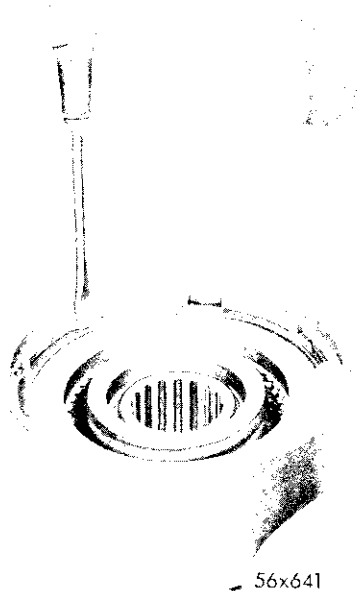
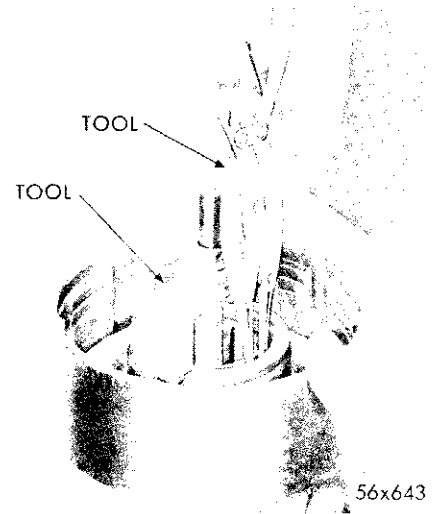

Fig. 70—Removal and Installation of Rear Clutch Piston Retainer Snap Ring
Fig. 71—Removal and Installation of Rear Clutch Spring Retainer Snap Ring
(1) Using a screwdriver, remove the snap ring (large) from rear clutch piston retainer assembly (Fig. 70).
(2) Remove the rear clutch pressure plate (L) from retainer assembly.
(3) Invert the clutch piston retainer assembly and remove the clutch plates (H) and driving discs (M) from assembly.
(4) Using the compressor, Tool C-3575, slightly compress the rear clutch piston return spring retainer, as shown in Figure 71. Use **extreme care not to damage piston return spring retainer by compressing the spring too far.**
(5) Remove piston return spring retainer snap ring with parallel jawed snap ring pliers, Tool C-3301.
(1) Lubricate and install inner piston seal ring (T) on hub of clutch retainer. **Make sure that the lip of the seal is facing down and the seal is properly seated in groove.**
(2) Lubricate and install the outer seal ring (S) on clutch piston (lip of seal toward piston head).
(3) Place the piston assembly (R) in the clutch retainer (U) and with a twisting motion, seat the piston in bottom of the retainer.
(4) Install the piston return spring on hub and position spring retainer and snap ring on spring.
(5) Using a compressor, Tool C-3575, compress the clutch spring sufficiently to permit the snap ring to enter the groove in the hub and snap the ring in place as shown in Figure 71. The piston spring retainer may require guiding past the clutch hub. **Make very sure the snap ring is properly seated.**
(6) Remove the compressor, Tool C-3575.
(7) Lubricate all clutch plates and drive discs with Automatic Fluid (Type "A" — Suffix "A"). Assemble by placing one of the rear clutch steel plates in the clutch retainer followed by a driving disc. Alternately repeat this procedure until all discs and plates have been installed.